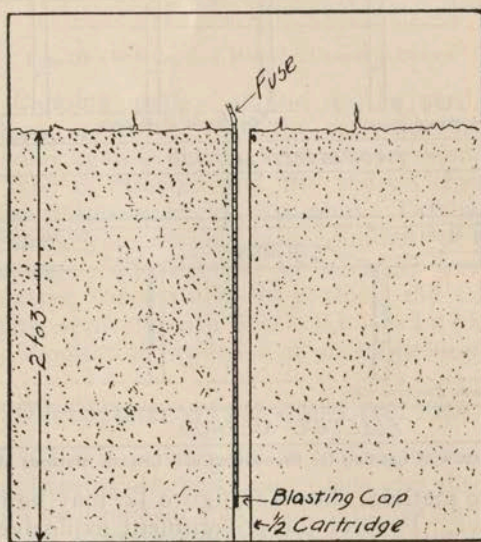

Fig. 13—Method of Loading for Sub-soiling and
**CAPS:** Blasting or detonating caps are dangerous when not properly used. They should be handled with caution. The shell is filled with sensitive shattering explosives. It is exploded by fire or heat, friction or by shock. Caps should be kept away from children. Caps should be kept dry and away from direct sunlight, matches and heat, and should be taken from the box in which they came and put in a safety box to carry them to the field. Caps should never be pried out of a box. Tip the box over and remove the caps with fingers. Figure 13 shows a simple, home made safety box.